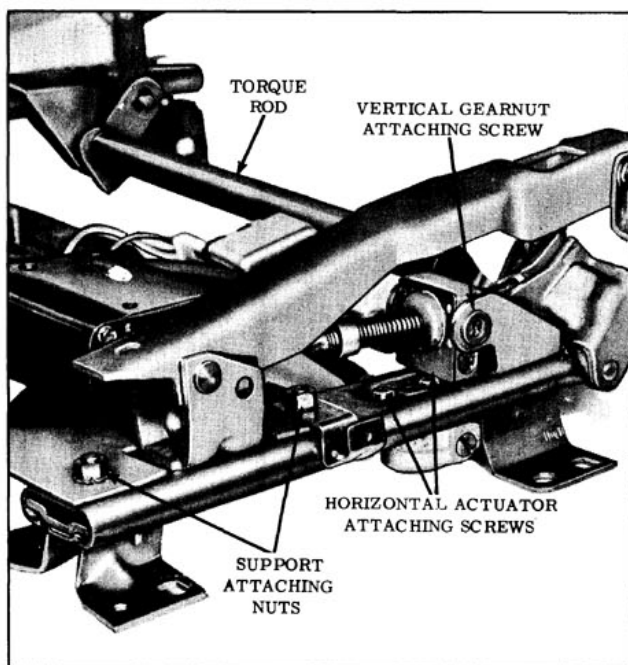
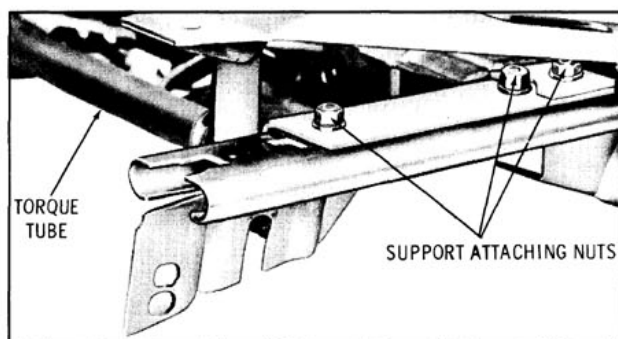

Fig. 16-103 Bucket Seat Adjuster (Outboard)
Fig. 16-104 Bucket Seat Adjuster (Outboard)
5. Remove nuts securing motor and transmission support-to-adjuster assembly. (Fig. 16-103 for outboard adjuster and Fig. 16-104 for inboard adjuster)
2. Using a clutch-type screwdriver or other suitable tool, remove shoulder screws securing linkage to vertical gearnut. (Fig. 16-103)
5. Remove screws securing horizontal actuator assembly to adjuster lower track; then remove actuator from adjuster assembly. (Fig. 16-103)
3. Remove nuts securing motor and transmission support to inboard adjuster. (Fig. 16-104)
2. Remove nuts securing support to both adjusters. (Fig. 16-103 for outboard adjuster and Fig. 16-104 for inboard adjuster)